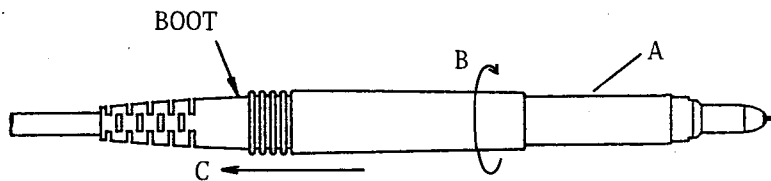

Figure 6-3. Boot Removal
- a. Hold the probe by hand at position **A** as shown in Figure 6-3.
- b. Remove the BOOT by rotating it in the direction of arrow **B** as shown in Figure 6-3.
- c. Slide the BOOT in the direction of arrow **C** as shown in Figure 6-3.